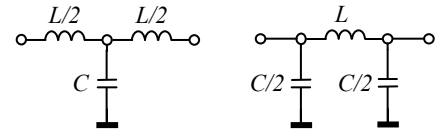

Figure 10.1
The constant- k LPF can have the configurations from Figure 10.1. The cutoff frequency is given by:
10.C.1. First we'll study the **LPF**. Each filter cell will have the configuration from Figure 10.1.a, and the elements have the values from problem 10.B.1.